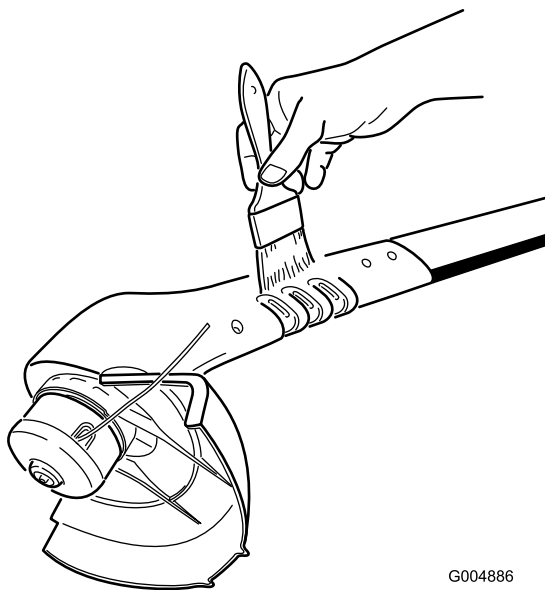

Figure 11
- Remove any debris away from air intake vents (Figure 11).